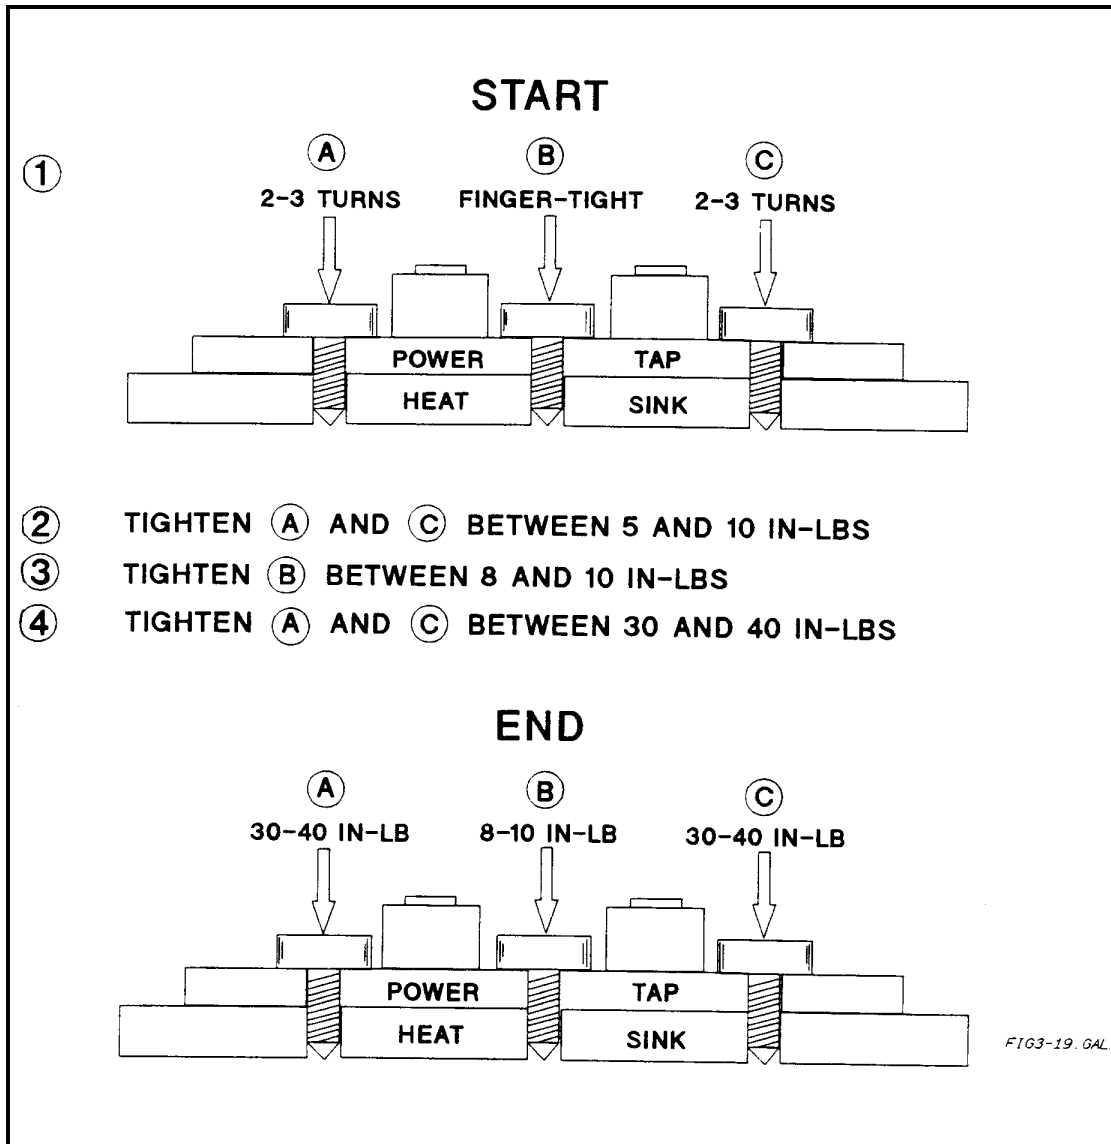

Figure 3-19. Proper Mounting Procedure for Output Rectifiers D900
3. Connect a dc voltmeter across A4TP1 and A4TP2 (see Figure 3-19). When the reading is 42 volts or less, it is safe to work inside the power supply.
Note When replacing D900, follow the procedure given in Figure 3-19.